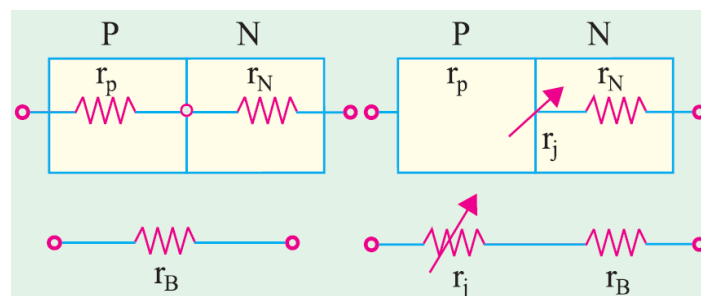

Figure 1. Resistances in a PN Junction Diode
- Figure 1. given below represents the various Resistances present in a PN junction diode